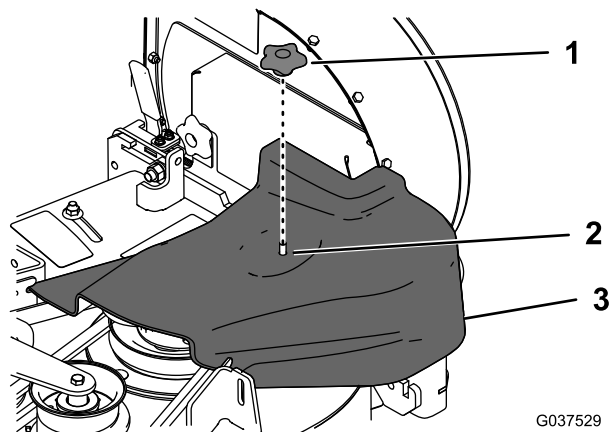

Figure 7
5. Install the belt cover and secure it by screwing the knob onto the screw on the idler (Figure 7).